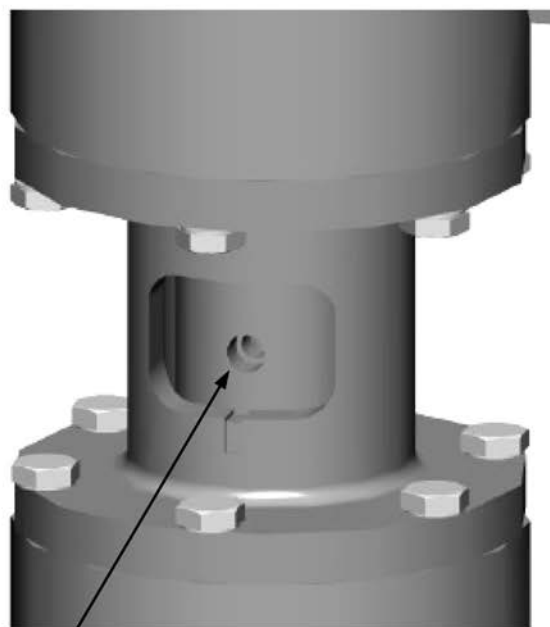

Figure 5 - Adjusting Drum
Step 5: If this is the first time that the unit is being adjusted after assembly, first remove the locking set screw from the radial hole in the adjustment drum. This may require the drum to be rotated until the hole containing the set screw can be accessed. Once this is done, turn the sensitivity drum to the right as far as it will turn (in direction of increasing numbers). Then, turn the drum one (1) complete rotation to the left (use the numbers as a guide). (Refer to Figure 5)